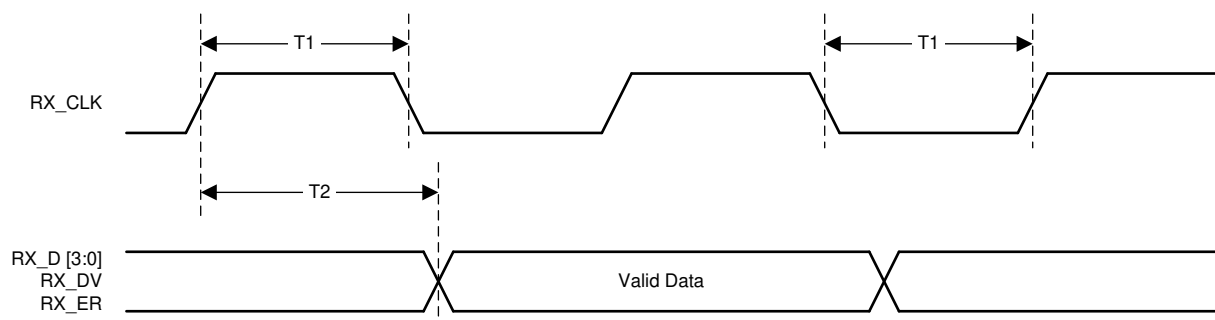

图 7-8. 10-Mbps Receive Timing
(1) Ensured by production test, characterization or design.
(2) See 图 7-8.